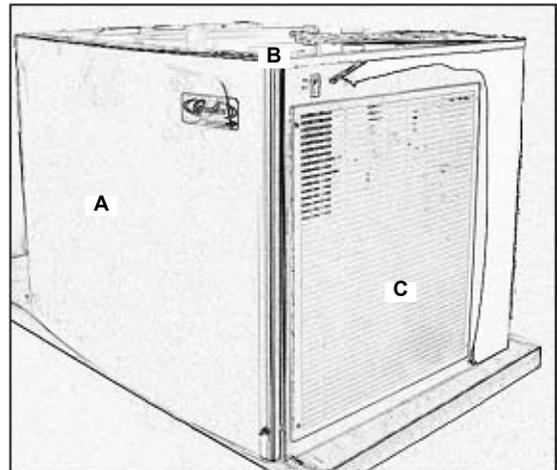

FIGURE 8
3. Remove the front panel cover (A), top cover (B), and louvered side panel (C) (FIGURE 8).